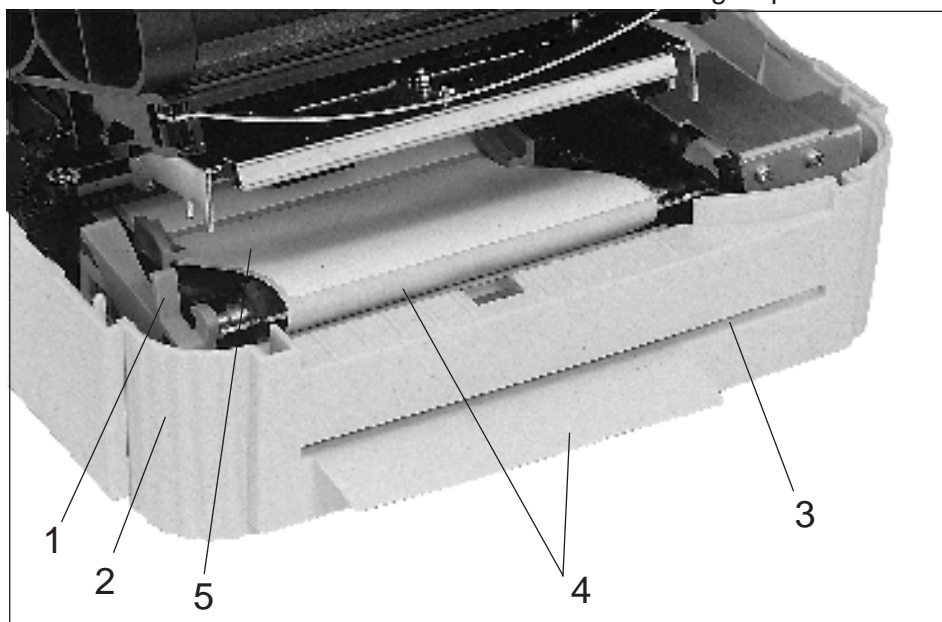

Fig. 7-2 Printer Ready for Self-Peeling Function
3. Feed the backing paper through the Backing Paper Opening in the front panel and replace the panel as shown in Fig. 7-2.